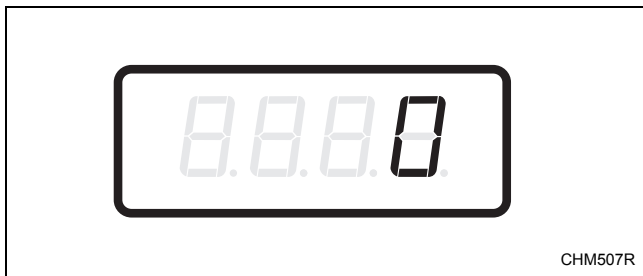

Figure 7
4. When “AtS2” appears in the display, press the START (enter) keypad. There are five digits in the Vend Price #2. The fifth digit will appear in the display and will flash one second on, one second off. Refer to *Figure 7*.